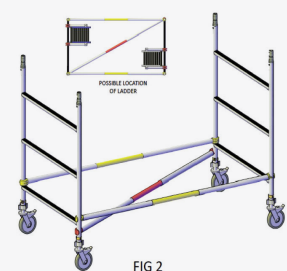

FIG 2
- Determine where the final location of hatch will be. This will be referred to as the 'front right' position. When the hatch door is opened outwards, it will rest against a horizontal brace. Install a plan brace (red or green) diagonally to the opposite frame uprights below the first rung. The plan brace should go from 'front left' to 'back right' – See Fig. 2.
- Check that the scaffold base is square – See Fig. 2.